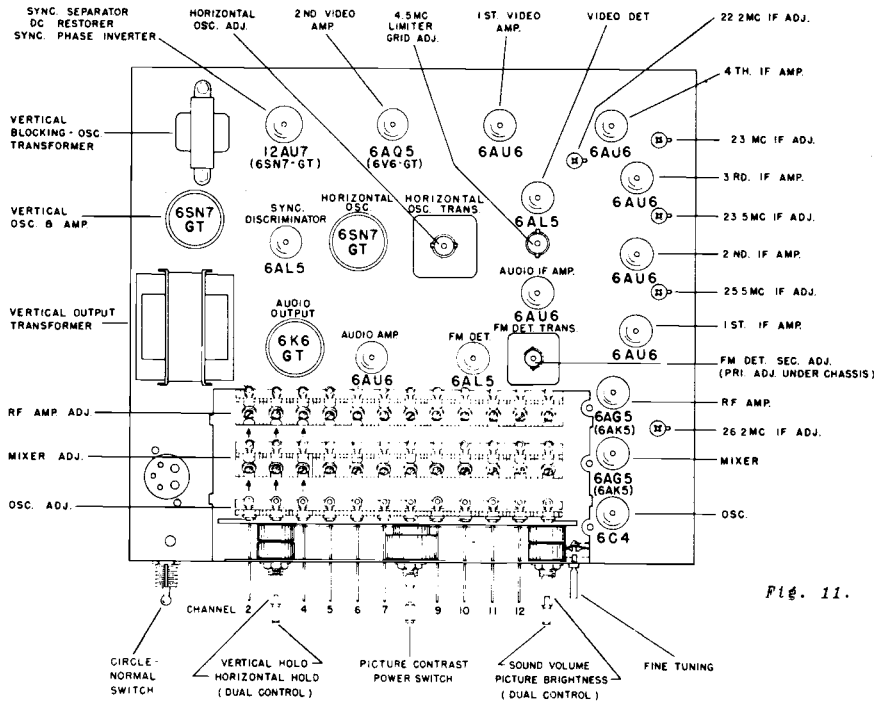

Fig. 11. TOP view, alignment points.
1. Advance the HORIZONTAL DRIVE control (clockwise) as far as possible without causing crowding of the right hand side of the test pattern or producing picture instability. Insufficient horizontal drive will cause the raster to fall short of filling the mask horizontally. Should the HORIZONTAL HOLD control fail to hold the test pattern in the normal manner, set the HORIZONTAL HOLD control in the middle of its range and adjust the HORIZONTAL OSC. ADJ. screw for horizontal sync. (See Fig. 11 for location).